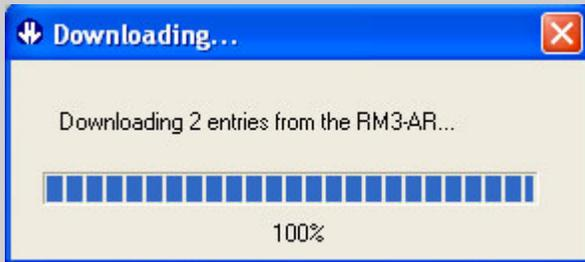

FIGURE 3
**Download** – this will download any readings which have been stored to the internal memory of the RM3-AR. While downloading readings you will see an information window showing progress (Figure 3). This only takes a few seconds and it is necessary to wait until the process is complete, at which time there is an option to clear the stored results from the RM3-AR memory.